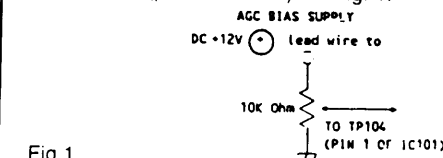

Fig 1.
- Apply a +5.2V DC dummy AGC bias to TP104 (pin 1 of IC101) see fig. 1.